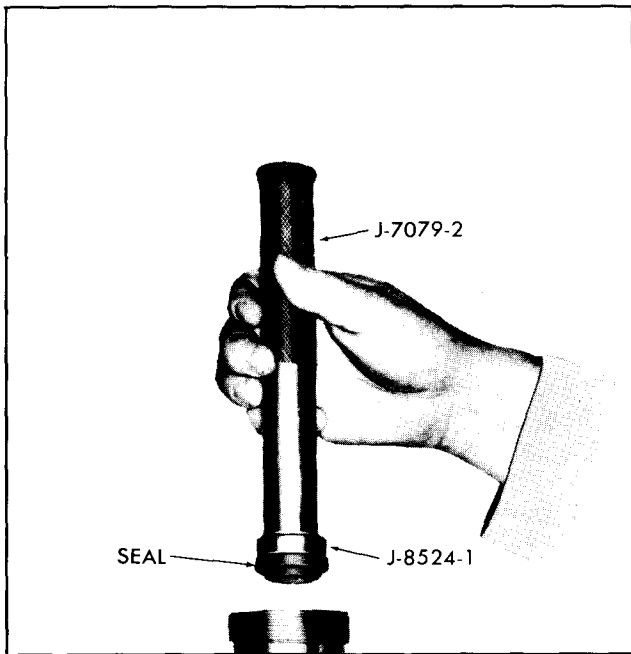

Figure 34—Installing Adjuster Plug Seal
2. Place dust seal and a new stub shaft seal on Tool J-8524-1 (face of seal with part number against seal). Lubricate seal with Power Steering Fluid and drive or press seals into adjuster plug until seated (figure 34). When properly installed the oil seal is under the dust seal.